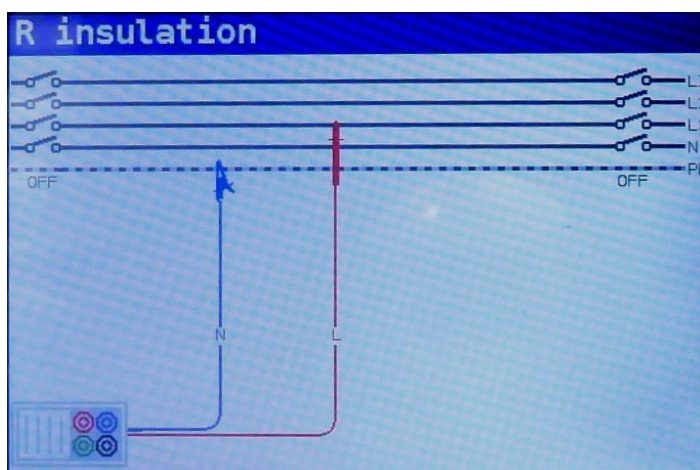

Figure 5-2: Connection of universal test cable
Step 3 Ensure that no voltages are present on the item for testing. Connect the test leads to the VOLTCRAFT IST instrument. Connect the test cables to the item under test. (see figure 5.2) to perform insulation resistance measurement.